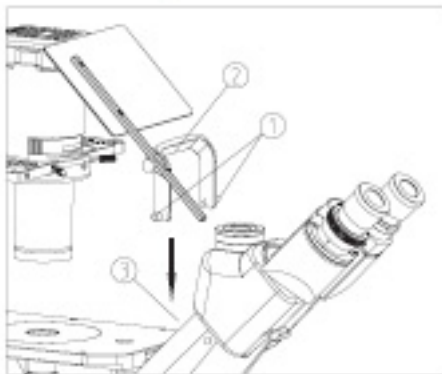

Figure 14
(1) Loose screw 1 till enough to put in trinocular cover. (Fig.14)